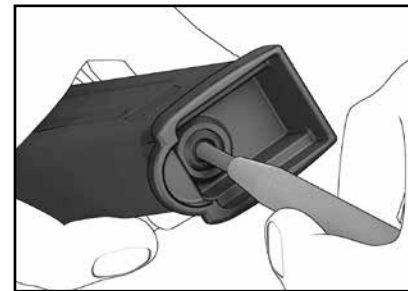

Figure 22
1. Using a blunt, pointed instrument, depress the locking insert detent located in the floorplate and hold it there (see Figure 22).